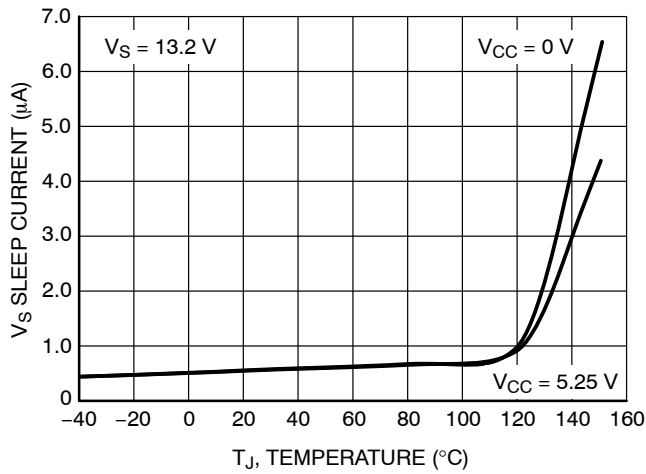

Figure 4. V_S Sleep Supply Current vs. Temperature
5. For temperatures above 85°C , refer to Figure 4.